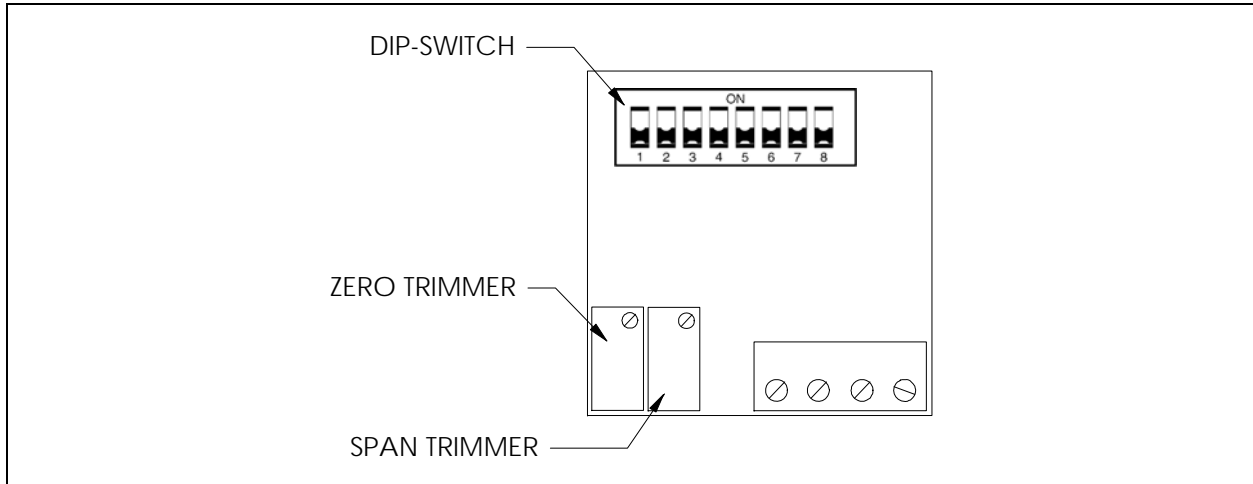

Figure 5-6 Back view of Gas Concentration Display
The display needs to be configured to the required gas range. On the back side of the display, there are 8 DIP-switches (Figure 5-6). The first 4 switches control the range and 6, 7 and 8 controls the placement of the decimal point (switch 5 is not used). In Table 5-10 below, common gas ranges are listed with the corresponding DIP-switch selection. For decimal point placement, only one of the switches (6, 7 and 8) can be ON at once. The selected gas range must be calibrated to display accurate values by adjusting the Zero and Span trimmers (Figure 5-6). A test transmitter with 4-20mA output is required to simulate zero and full scale outputs. Follow the steps below for proper setup.
2. Set Zero and Span trimmers fully clockwise, refer to Figure 5-6.